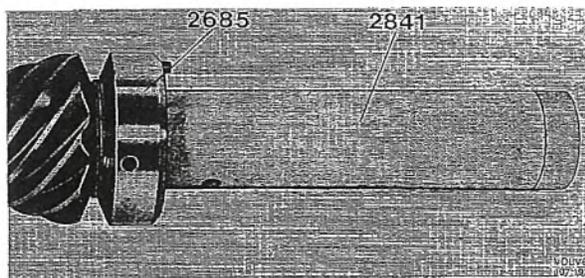

Fig. 4-145. Adjusting ring and tool for pinion location
1. Clean the marking surface on the pinion with extremely fine emery cloth. Fit the adjusting ring 2685 and tool 2841 (or 2684) on the pinion, see Fig. 4-145. Place the pinion in the carrier so that the bolt on the adjusting ring faces the bearing side of the carrier, see Fig. 4-146.